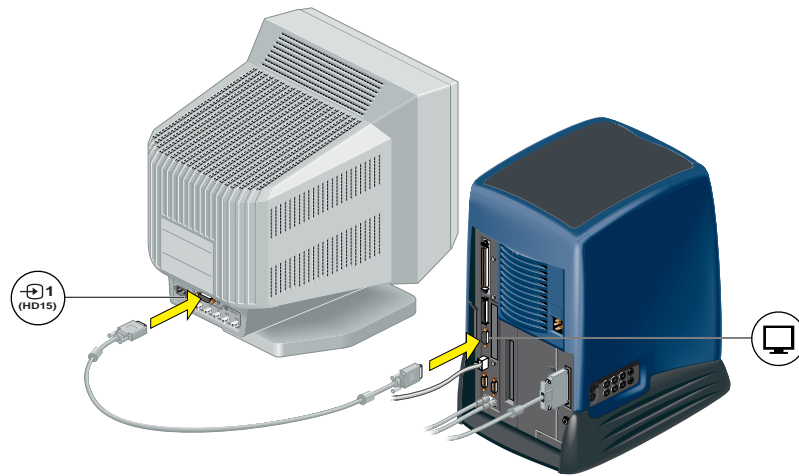

Figure 1-8 Connecting the Monitor to the Workstation
4. Connect the monitor cable to the workstation and to the monitor (Figure 1-8).